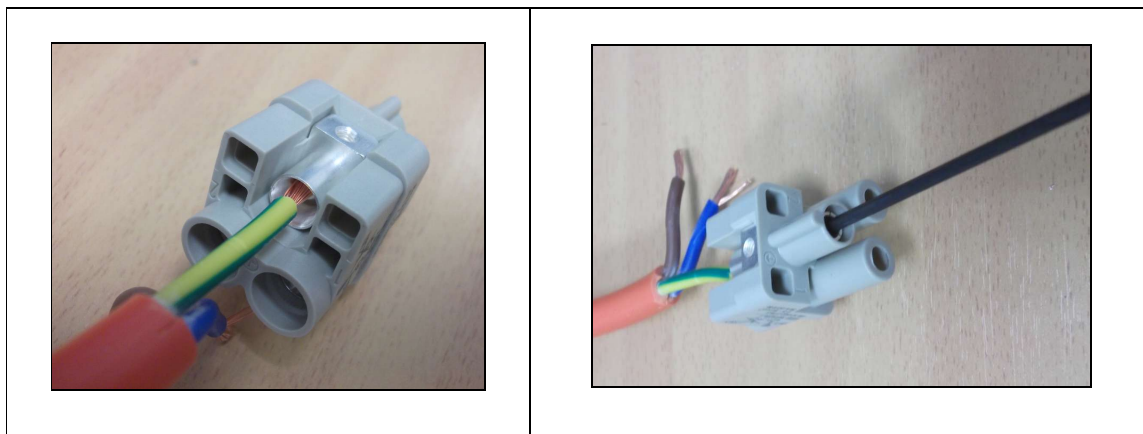

Figure 4.2.3: Harting Han® Q2/0 connector insert – cone connection technique
5. Push the stripped end of the earth conductor into the central connector insert; this is clearly marked with an earth symbol. The bare conductors should be pushed over the cone (refer to figure 4.2.3).
6. Tighten the cone with a 2mm hexagonal driver (Allen key) to a torque of 1.8Nm as shown in figure 4.2.3.